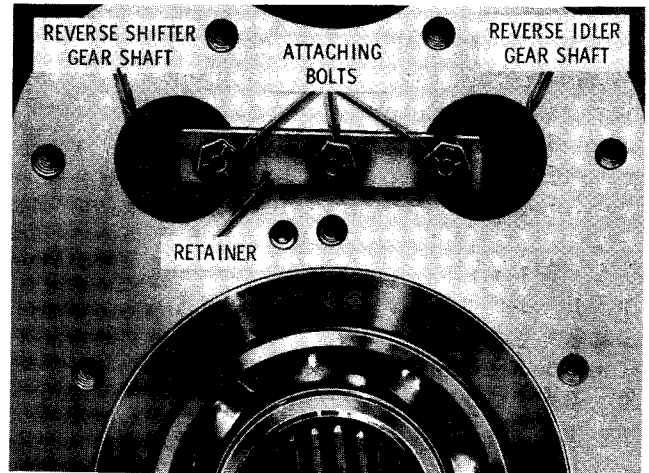

Fig. 5-37. Reverse shifter and idler shaft retainer
(1) Remove three bolts and washers (fig. 5-37) and the shaft retainer.